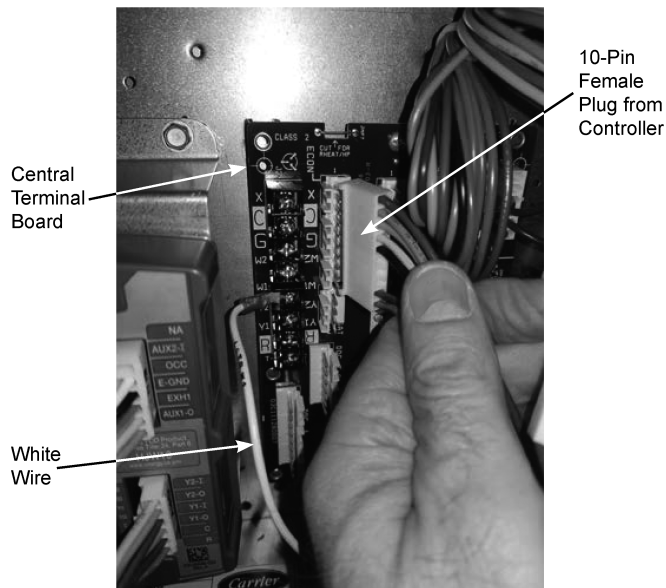

Fig. 11 — Connect 10-Pin Plug to Central Terminal Board
13. Connect the 10-pin female plug from the controller harness to ECON on the CTB. (See Fig. 11 and 25.)
14. Connect the White wire from the controller harness to the W1 terminal on the CTB. (See Fig. 11 and 25.)